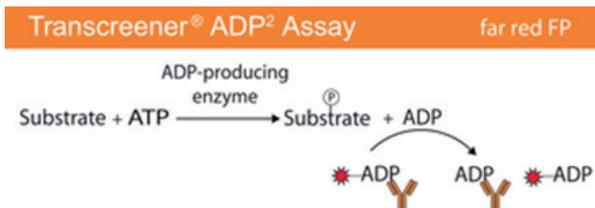

Fig. 1: Transcreener[®] ADP² Assay Principle for Kinases
The Transcreener[®] FP Assays are a single step, competitive immunoassay for direct detection of nucleotides with a far red fluorescence polarization (FP) readout. The reagents for all of the assays are a far red tracer bound to a highly-specific monoclonal/polyclonal antibody. Nucleotide diphosphate or monophosphate produced by the target enzyme displaces the tracer from the antibody, leading to increased rotational freedom and results in a decrease in polarization (Figure 1).